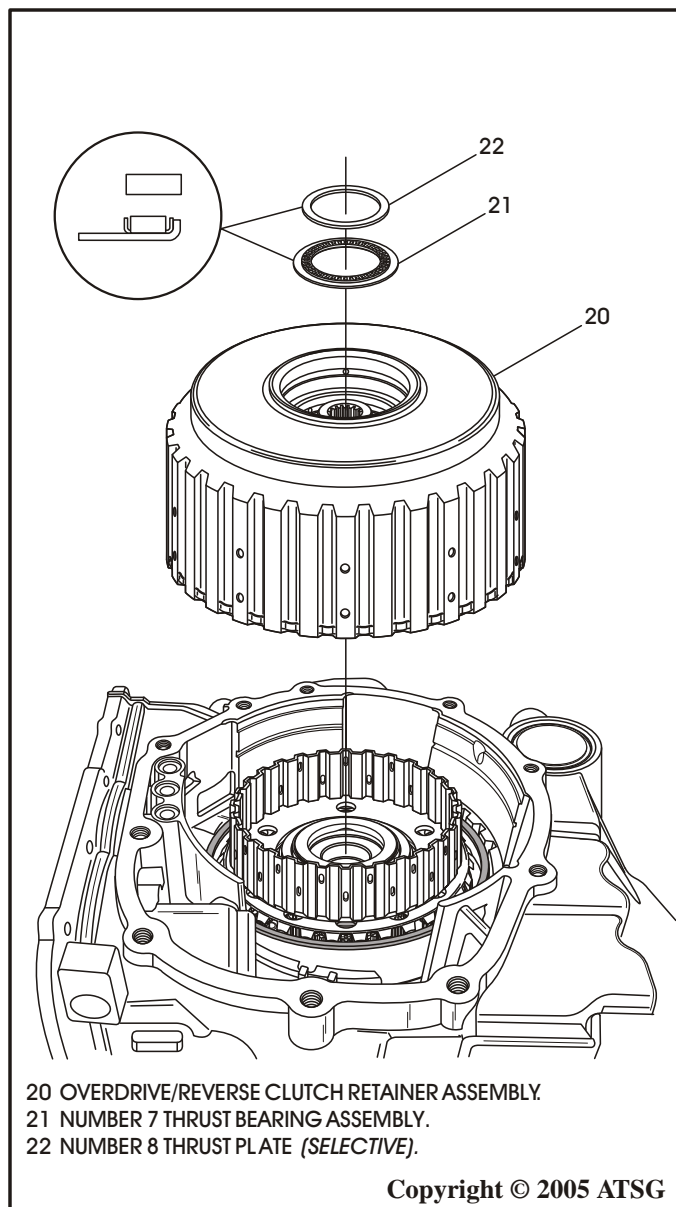

Figure 184
65. Install the overdrive/reverse clutch housing, as shown in Figure 184, by rotating the housing back and forth until all overdrive clutches are engaged with the hub and all reverse clutches are engaged on sun shell, and the housing is fully seated.
66. Install the number 7 thrust bearing, as shown in Figure 184.
Note: Do not install the selective number 8 thrust plate. It is shown in Figure 184 for reference only as to where it goes when it is time to install the washer.